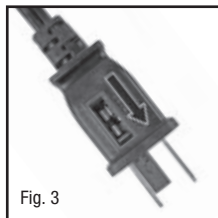

Fig. 3
- You can gain access to the blown fuse by sliding open the door found on the side of the plug. Slide the door outward until the blown fuse is fully visible (Fig. 3).